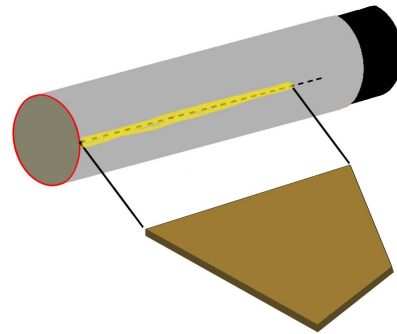

Figure 7
- **Step 13** Apply a bead of full-strength glue to one of the fin alignment lines, between the bottom of the tube and the 2.375" mark, and a similar bead to the root edge of a fin. Attach the fin to the body as shown in Fig. 7. With the artist's brush slightly wet, smooth down the glue that has squeezed out from the joint to form a small fillet. Do not over-wet this area! Slide the alignment guide down over the tube, and carefully insert the fin through one of the slots. The guide will hold the fin in its correct position while the glue dries. When dry, remove the guide and repeat this step for each of the other main fins.